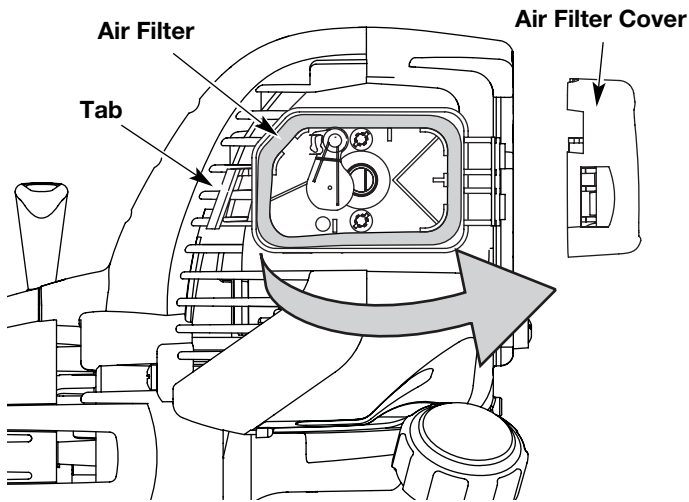

Fig. 28
1. Open the air filter cover. Push the tab on the left side of the cover inward. Then pull the air filter cover out and to the right (Fig. 28).
2. Remove the air filter (Fig. 28).